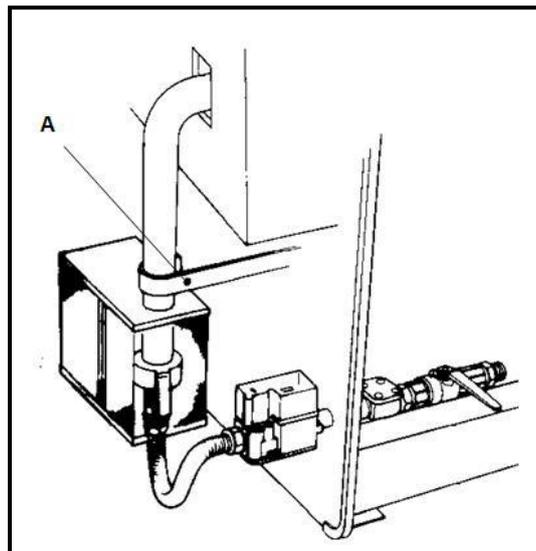

Fig. 3.6
- Remove the securing bolt (**A**, Fig. 3.6).